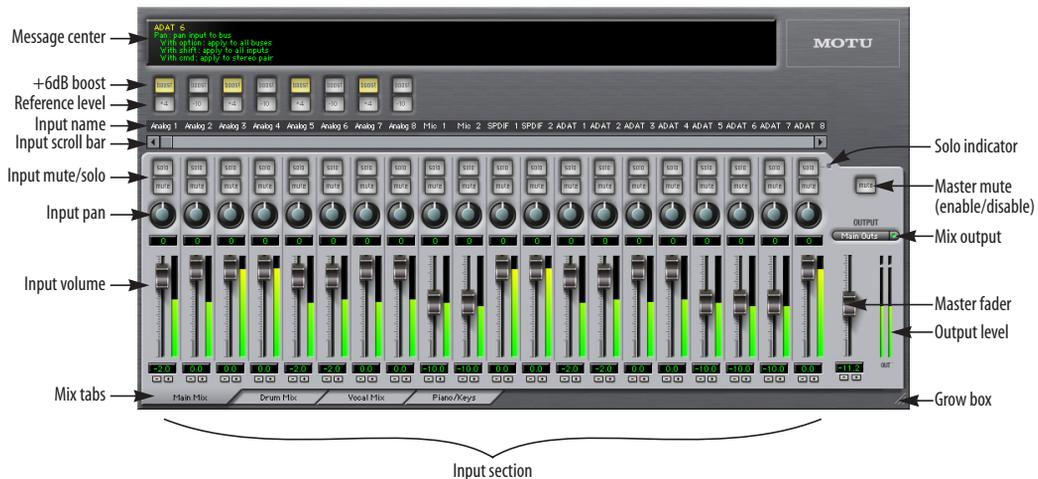

Figure 10-1: CueMix Console is a virtual mixer that gives you control over the 828mkII's on-board mixing features.
CueMix Console displays one mix at a time. To select which mix you are viewing, click its tab at the bottom of the window, as shown in Figure 10-1. The mix name appears in the tab. Double-click the name to change it.
To view a mix, click its tab at the bottom of the window, as shown in Figure 10-1. The mix name appears in the tab.
The master mute button (Figure 10-1) temporarily disables (silences) the mix.
The master fader (Figure 10-1) controls the overall level of the mix (its volume on its stereo output). Use the individual input faders to the left to control individual input levels.
To add an input to a mix, or remove it, click its MUTE button. To solo it, use its SOLO button. To toggle these buttons for a stereo pair, hold down the control key while clicking either channel. The Solo indicator LED (Figure 10-1) lights up when any input is soloed (including inputs that may currently be scrolled off-screen).
Use the input fader and pan knob (Figure 10-1) to adjust these settings for the input in the mix. Again, all settings within the gray-shaded channel strip area belong to the mix currently being viewed. Note that an input can have different settings in different mixes.
- 1 Select the source mix (Figure 10-1) and choose Copy from the file menu (or press control-C).
The reference level and +6dB boost settings at the very top of the CueMix Console window (Figure 10-1) affect each input globally, across all mixes and for audio being routed to the computer. For example, if you add 6dB of boost, your host software will receive the boost for that input as well.
This setting (Figure 10-1) adds 6 dB of gain to the input signal. This setting is applied globally for the input.